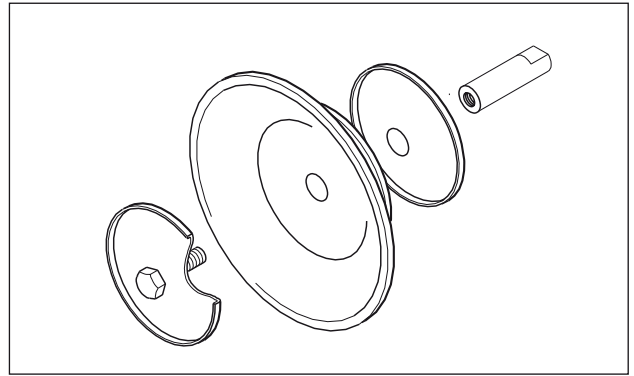

Fig. 13: Assembly of standard diaphragm with inner and outer plate
- Pumps DL 40, 50 and 80 with PTFE diaphragms have internal diaphragm plates with bolted on shims to reduce and displace the stroke. For later changeover to PTFE diaphragm the corresponding plates must be used (Fig. 13).